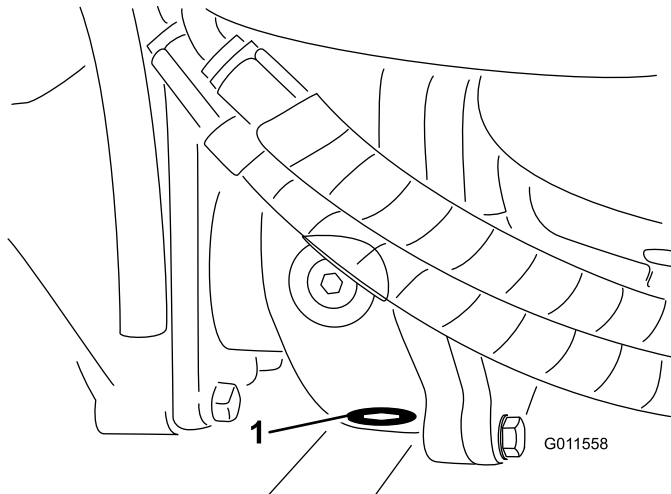

Figure 71
5. Clean the area around the drain plug at the bottom of the gear box (Figure 71).